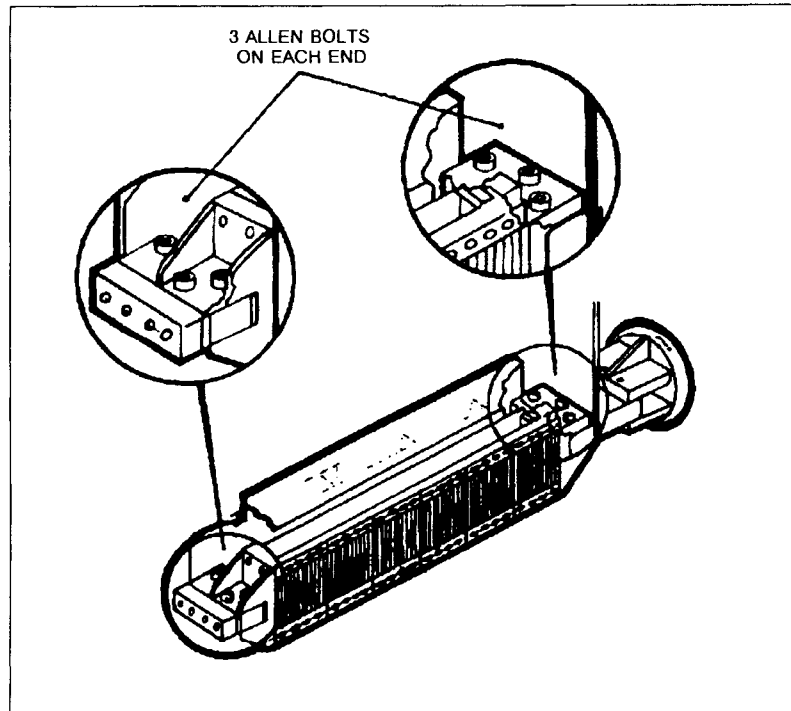

Figure 6-29. Printbar Bottom View
- h. Loosen the three 5 mm Allen screws at the ends of the printbar assembly removing two of the screws (see Figure 6-29). Leave the center screws in to prevent the printbar from sliding out.